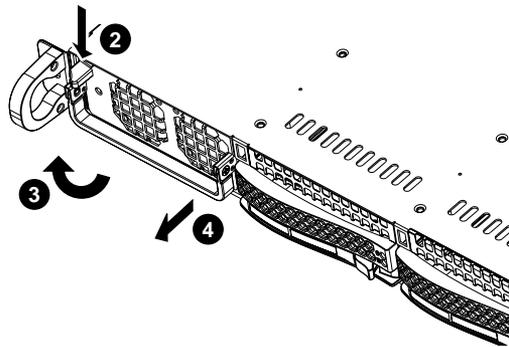

Figure 4-5 Power Supply Removal Example
2. Push the release tab on the front of the power supply. See Figure 4-5.